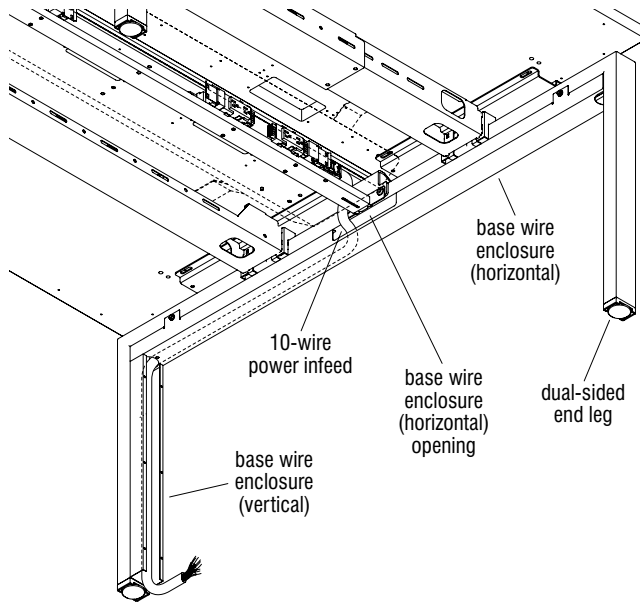
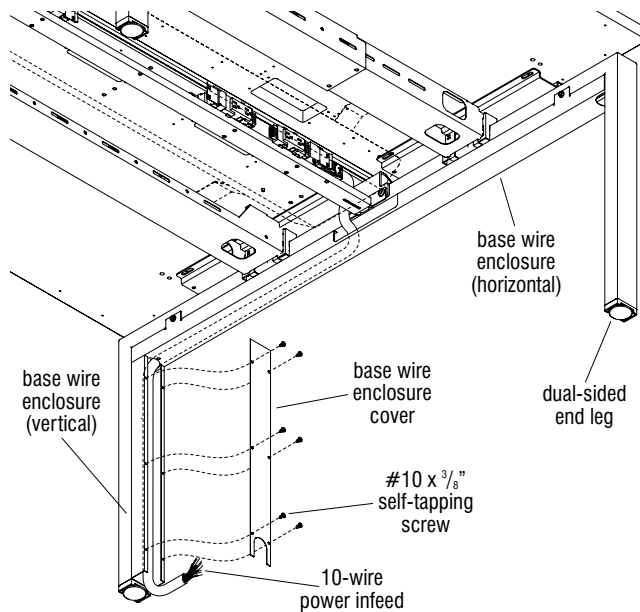

Figure 55
Figure 56
- Place the power infeed, or other desired wires into the base wire enclosure (vertical), then position the cover of the base wire enclosure with the U-shaped opening face down as illustrated (Figure 55). Mate the cover to the wire enclosure, aligning the mounting holes of both. Using six #10 x 3/8" self-tapping screws, secure the base wire enclosure cover to the wire enclosure. Pull infeed through the enclosures, exiting at floor level (Figure 56).